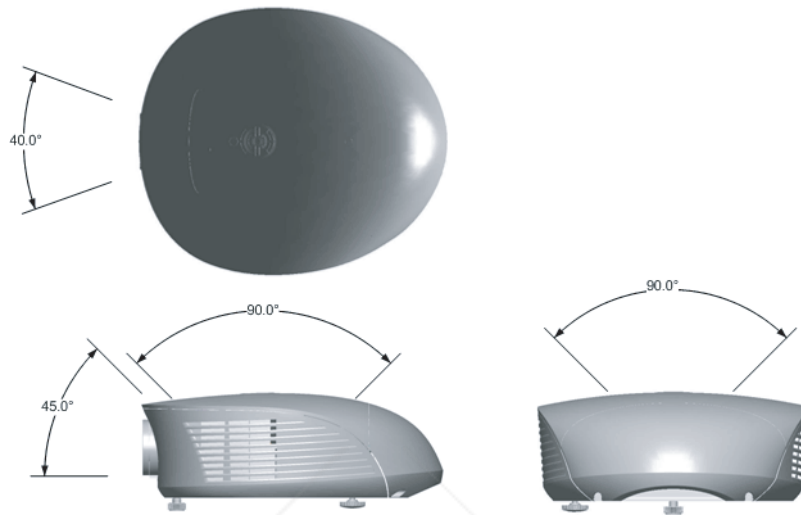

Figure 3-1. IR Reception Angles
- The projector's front IR receiver has a range of approximately 40 feet (12.19 meters); the top IR receiver has a range of approximately 20 feet (6.10 meters). Figure 3-1 shows the reception angles of the front and top IR receivers.